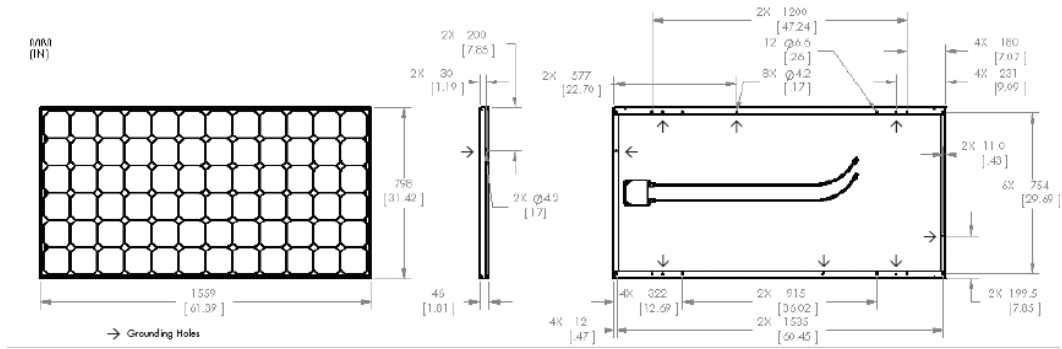

Figure 3: 72-cell
For a non-integral module, the assembly is to be mounted over a fire resistant roof-covering rated for the application. Modules may be mounted at any angle, from horizontal to vertical. Class C fire rating is maintained at all installation slopes. Select the appropriate orientation to maximize sunlight exposure. Specific information on module dimensions and the location of mounting and grounding holes is shown in (Figures 3, 4 and 5).
- 1) **Frame Holes:** Secure the module to the structure using the factory mounting holes. Four 1/4" stainless steel bolts, with nuts, washers, and lock washers are recommended per module. Refer to Figures 3, 4 and 5 for the module dimensions and hole locations. This method has been certified by a third-party organization according to UL 1703.
- **Module figures 3, 4 and 5** are on the next page;